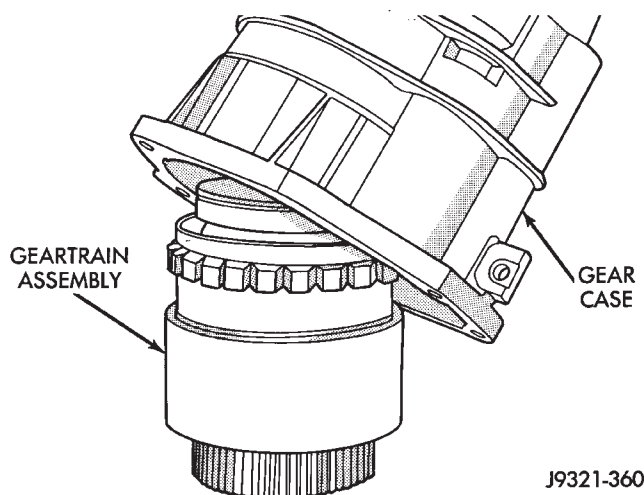

Fig. 240 Overdrive Gear Case Installation
(7) Support geartrain on Tool 6227-1 (Fig. 240). Be sure tool is securely seated in clutch hub.
(8) Install overdrive gear case on geartrain (Fig. 240).